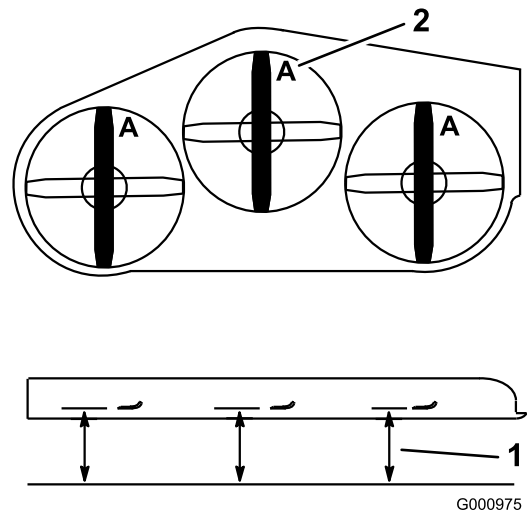

Figure 83
4. Measure at A, and from a level surface to the cutting edge of the blade tips (Figure 83).